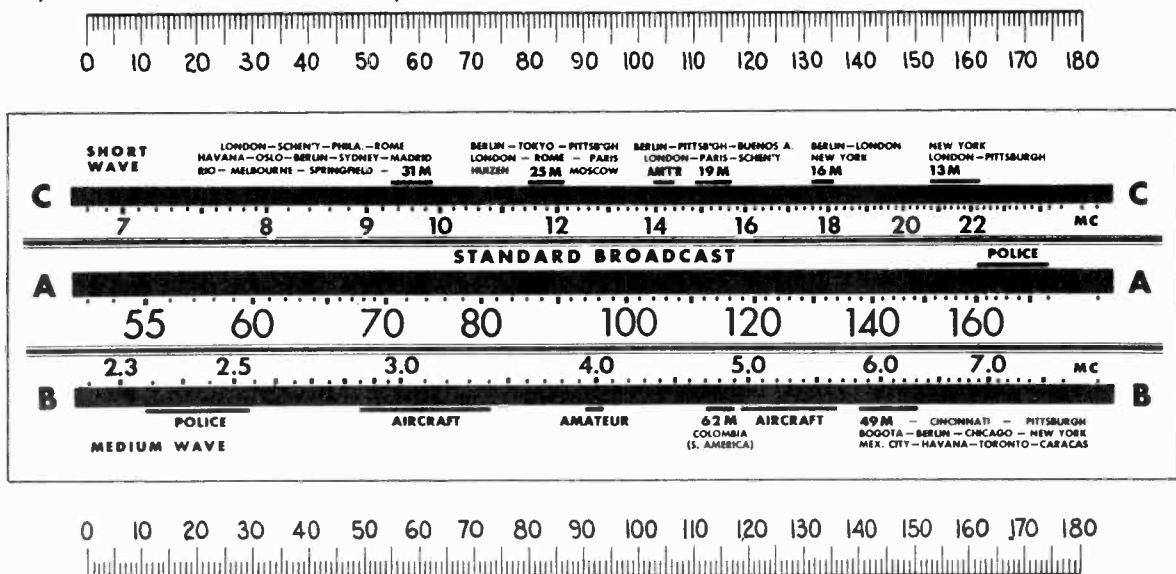

Figure 1—Tuning Dial, and Corresponding 0-180° Calibration Scale
The operation may be more readily understood by reference to figures 1, 2, and 3. When the motor is not energized, the tuning coil is pushed to the rear or slightly out of the magnetic center by tension of contact spring "C" and the motor shaft is disengaged from the driving gear train. Pressing in any one of the eight push buttons will complete the motor circuit through a station selector contactor disc, assuming that the "Manual-Electric-Remote" switch is in the "Electric" position and that the motor is in the "On" position. The contactor disc will be drawn forward, due to solenoid action, and the pin "F" on the end of its shaft will engage the arm "G" on the small main pinion gear, thereby driving the tuning mechanism. At the same time contact springs "E" and "D" will be grounded, causing suppression of audio amplification and automatic frequency control during the tuning cycle. The motor will continue to operate until the in-
1. Capacitors C18 and C14 should be carefully checked for leakage or short circuit in cases of intermittent operation or no operation. C14 should be eliminated from the circuit, and R9 should be shorted out, and C18 replaced by Stock No. 4839, as shown by the Schematic Circuit Diagram figure 1, in the event of trouble in this circuit.